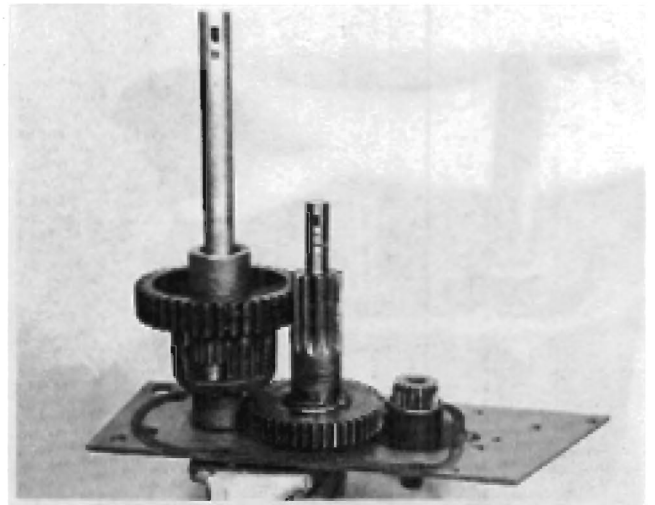

FIGURE 10
7. Place the right side cover in a vise. Install the input gear and shaft assembly. See Figure 10.
10. Install the differential and axle assembly. See Figure 10 showing the input gear, brake shaft gear and differential assembly in position.